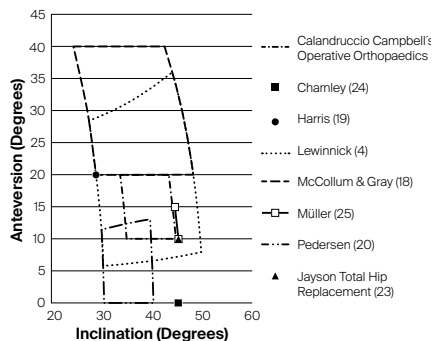

Fig 4 Recommended safe zones of the acetabular cup in the operative reference system.
- Check the version via the plane of the femur and tibia with the knee flexed at 90° (figure 4 position)